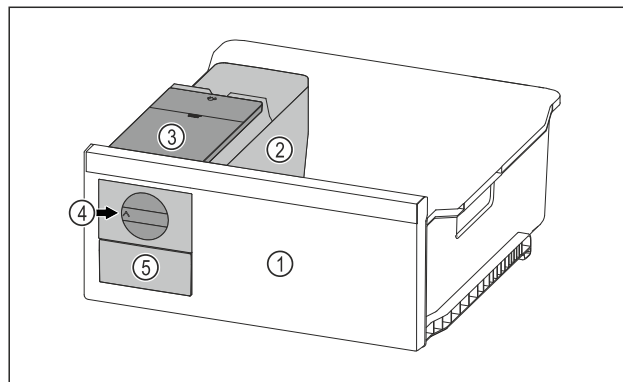

Fig. 111 Example illustration
- ▶ Turn the rotary knob Fig. 111 (4) clockwise as far as it will go.
- ▷ Ice cubes fall from the ice cube tray into the ice cube drawer Fig. 111 (5).